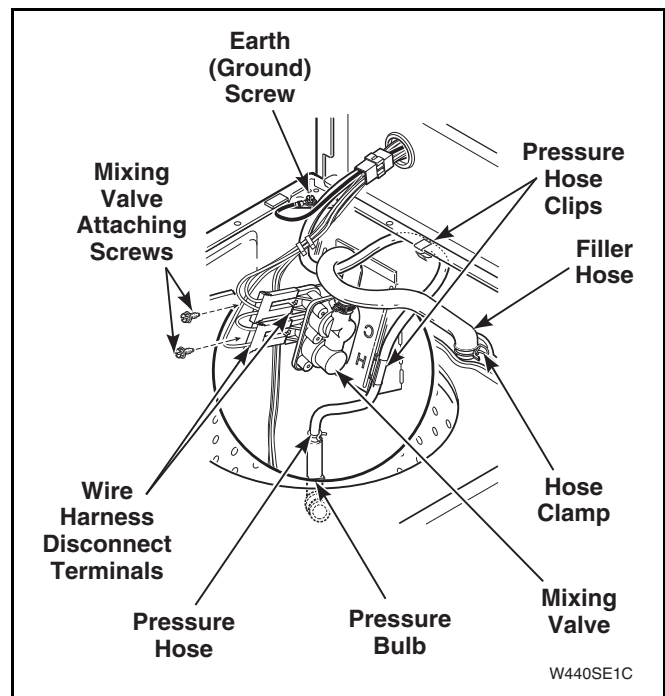

Figure 36
- Then remove pressure hose from clips located on mixing valve cabinet flange and the top flange at rear of cabinet. Refer to *Figure 36*.
- Pull top forward far enough to permit disconnecting earth (ground) wires from top left rear corner gusset of washer cabinet. Refer to *Figure 36*.
- Disconnect wires from mixing valve solenoids at quick disconnect blocks. Refer to *Figure 36*.
- Remove screw(s) holding mixing valve to mounting bracket at rear of washer cabinet. Refer to *Figure 36*.
- Pull mixing valve out toward front of washer far enough to permit disconnecting water inlet and fill hoses from mixing valve. Refer to *Figure 36*.
- Remove wires and quick disconnect blocks from mixing valve solenoid terminals. Refer to *Figure 36*.